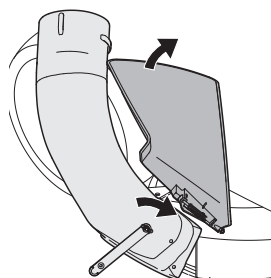

Figure 22
3. With the tractor's discharge chute raised up and held open, install the discharge chute elbow over the chute opening by placing the top, rear edge of the discharge chute elbow over the rear of the deck opening, then pivoting the discharge chute elbow down and over the chute opening. See Figure 22.